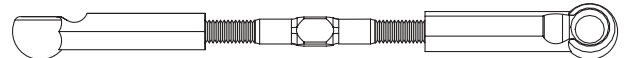

Figure 45B
❑ 1. Thread a plastic Rod End (4) onto each end of a 1.625" Titanium Turnbuckle (139). Tighten both Rod Ends equally until the Tierod is the same length as the one in Figure 45B. Make two of these Tierod assemblies.